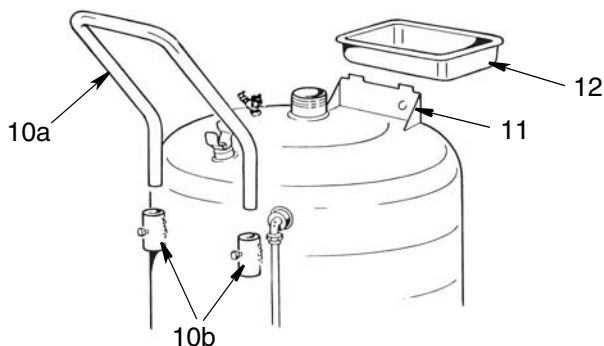

FIG. 4
3. Insert handle (10a) into brackets (10b) on back of tank and secure with screws provided (FIG. 4).
4. Place tool tray (12) on tabs of tray bracket (11) (FIG. 4). Apply pressure to seat tray.